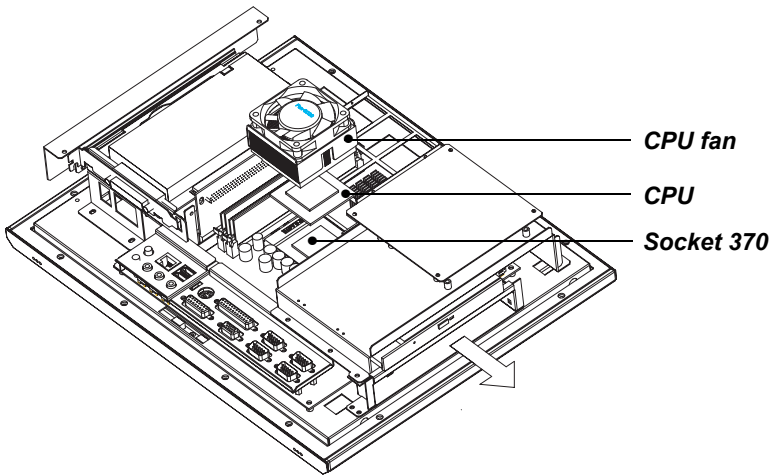

Figure 4.3: Installing the CPU
4. Insert the CPU with the correct orientation. The notched corner of the CPU (with the white dot) should point towards the end of the lever. The end of the lever is the blank area where one hole is missing from the corner of the square array of pin holes. An arrowhead printed on the motherboard points to the end of the lever. (See Fig. 4-3 overleaf.)
7. Place the heat sink on top of the CPU and fasten it with the heat sink clip (shown in Fig. 4-3).